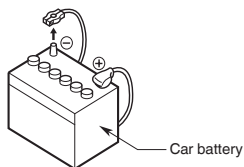

Figure 1
3. Be sure to disconnect the battery “-” terminal before starting. This is to prevent short circuits during installation. (Figure 1)